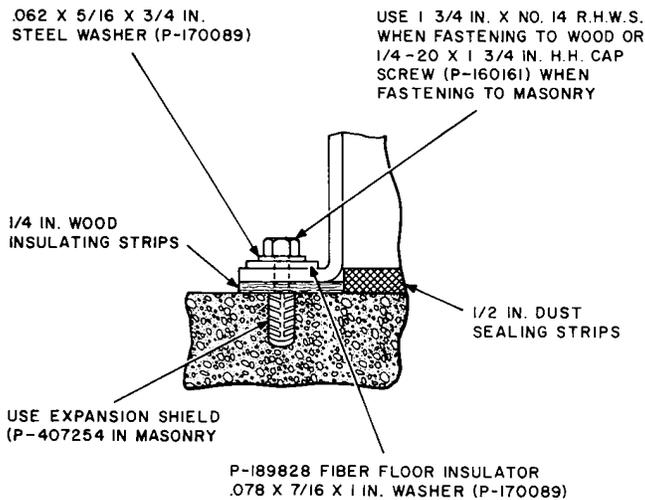

Fig. 1—Method of Fastening PBX
3.03 A PBX located on an insulating material, such as a floor covered with rubber tile, etc, does not require the insulating strips mentioned in 3.02 though metal may be concealed under the insulating material. The fiber floor insulator washer furnished with the PBX provide insulation for the framework in these cases. See Fig. 1.
3.05 Fasten the PBX as shown in Fig. 1. The PBX should stand approximately level.
- (e) Modification for grouping one position to another are made locally, in accordance with SD-66521-01, Fig. 1, 2, 3, 4, 5, 6, 9, and 10. The apparatus required to modify the telephone unit in position 2 is furnished in accordance with J59013D, List 2. J59013A, List 9 covers the common equipment for grouping the two positions. Apparatus for equipping cord units with long cords is furnished in J59013E, List 4 as shown in Fig. 12.